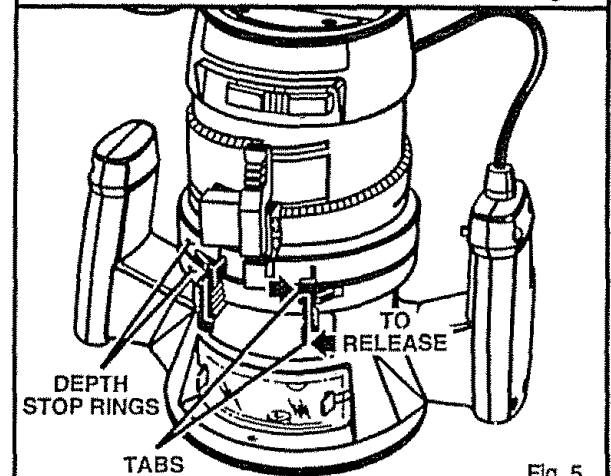

Fig. 5
See *Figures 5 and 6*.
1. Release depth stop rings. To release: grasp depth stop ring tabs with your thumb and index finger, then twist them apart as shown by the arrows in *figure 5*.